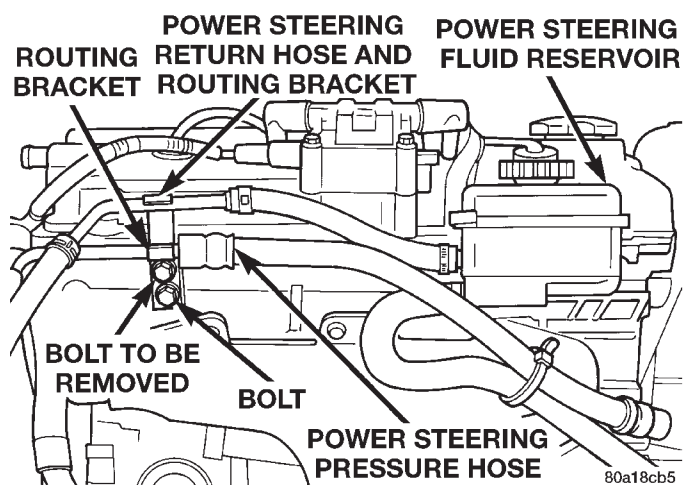
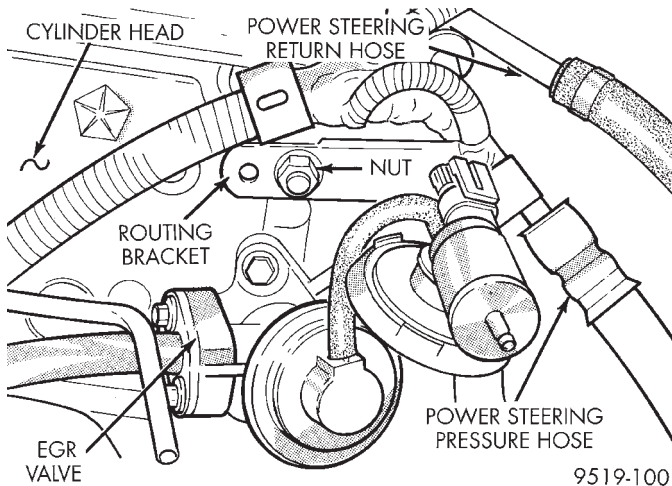
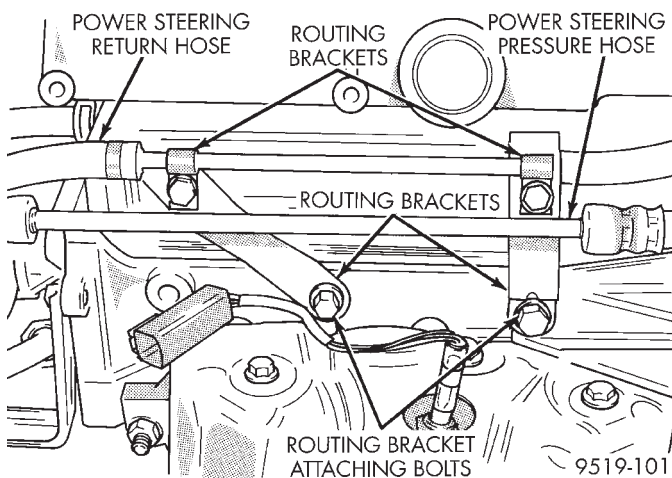

Fig. 10 2.0 And 2.4 Liter Power Steering Hose Routing
Fig. 11 Power Steering Hose Routing Bracket Attachment To Cylinder Head
Fig. 12 2.5 Liter Power Steering Hose Routing
(4) If vehicle is equipped with a 2.0 or 2.4 liter engine, remove power steering pressure hose routing bracket from the power steering return hose bracket on rear of engine (Fig. 10). Then remove the nut attaching the power steering pressure hose routing bracket to stud on side of cylinder head (Fig. 11).
(5) If vehicle is equipped with a 2.5 liter engine, remove the 2 routing brackets (Fig. 12) attaching the power steering return hose to the power steering pressure hose routing brackets. Then remove the 2 bolts attaching the power steering pressure hose routing brackets to the cylinder head (Fig. 12).
(6) Remove the tie-strap (Fig. 10) holding the power steering fluid supply hose to the power steering pressure hose.
(6) Correctly route power steering pressure hose avoiding tight bends or kinking of the hose. Install power steering pressure hose routing brackets and attaching bolts on engine (Fig. 10), (Fig. 11) and (Fig. 12).
(7) Route power steering pressure hose to pressure port on power steering gear. Install power steering pressure hose, on steering gear and loosely install tube nut into steering gear. Then using a crow foot,
(9) Install the tie-strap (Fig. 10) holding the power steering fluid supply hose to the power steering pressure hose.
(10) Lower vehicle.
(11) Start the engine and let run for a few seconds, then turn the engine off.
(12) Add fluid if necessary. Repeat the above procedure until the fluid level remains constant after running the engine.
(13) Raise front wheels of vehicle off the ground.
(14) Start the engine. Slowly turn the steering wheel right and left, lightly contacting the wheel stops. Then turn the engine off.
(15) Add power steering fluid if necessary.
(16) Lower the vehicle and turn the steering wheel slowly from lock to lock.
(17) Stop the engine. Check the fluid level and refill as required.
(18) If the fluid is extremely foamy, allow the vehicle to stand a few minutes and repeat the above procedure.
(19) After hose is installed, check for leaks at all hose connections.